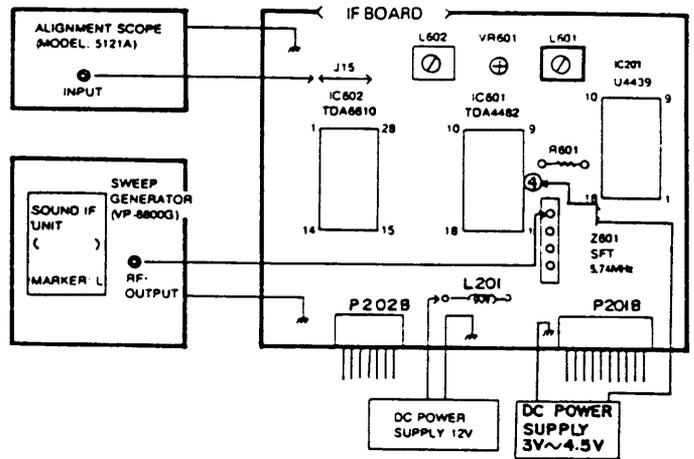

Fig 6. Connection Diagram of the Instruments
- Connect a detector lead (input of Alignment Scope) to the J15 (tin wire). (Fig. 6)
- 4) With the TV receiver turned off, apply 12VDC to the left lead of L201 and the AGC Bias voltage to the pin4 of IC601. (Fig. 6)